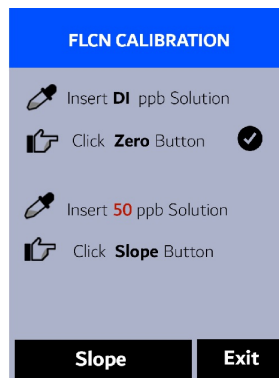

Figure 8.
6. If the calibration succeeds, a checkmark ( **✔** ) and instructions for the 50 ppb slope calibration will appear (Figure 8).